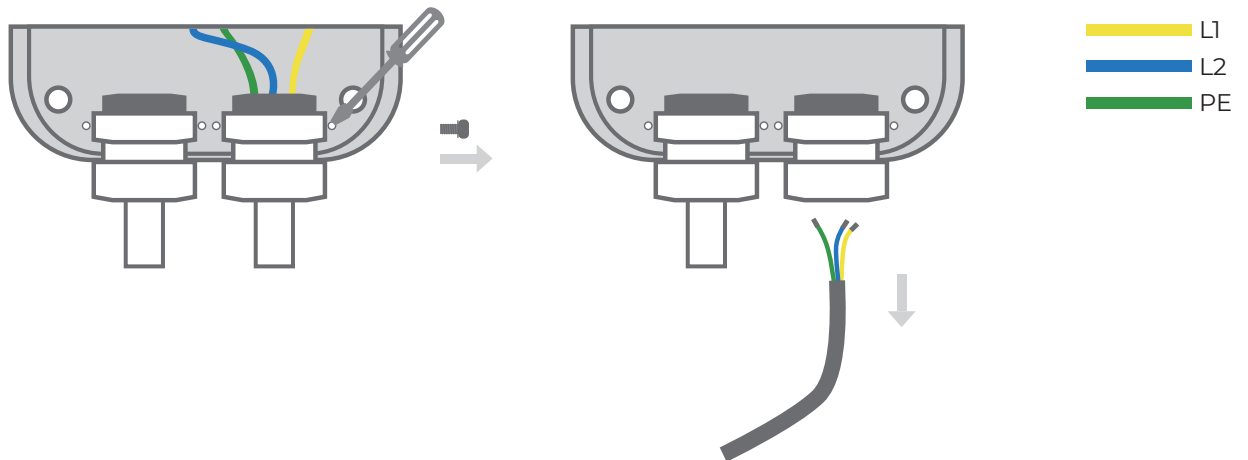

Fig. 5.6.6
6. Unscrew the cable clip, and take out the cable from the bottom hole. (See Fig. 5.6.6)